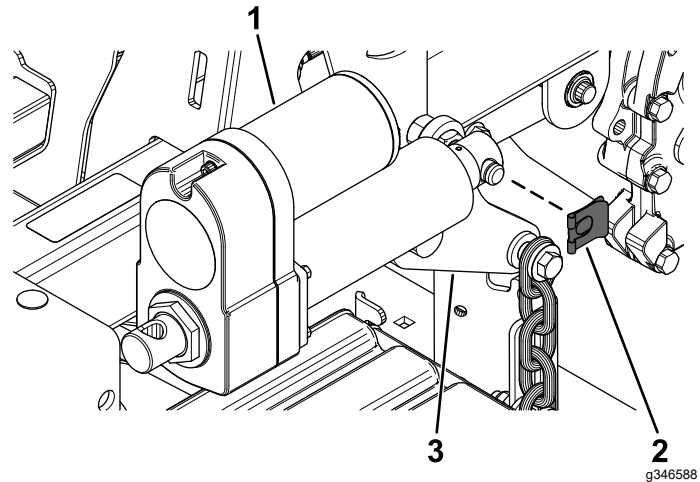

Figure 18
1. Secure the actuator to the rear deck-lift arm using the pin clip (Figure 18).